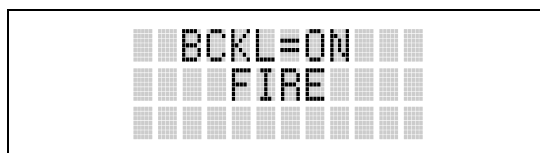

Figure 10-7: Backlight Menu Display
3. Press . The backlight menu item is activated. Line one shows the active menu item and its current parameter setting. Line two shows the currently selected system or group name (see Figure 10-7).